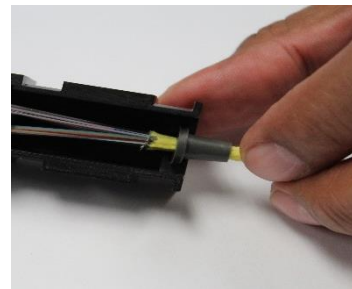

Figure 9
6.2 Bunch the ribbon and evenly stack the fiber ends in order to facilitate insertion of fiber ribbons into correctly color coded assembly breakout unit.. See **Figure 9**
See **Figure 9**.